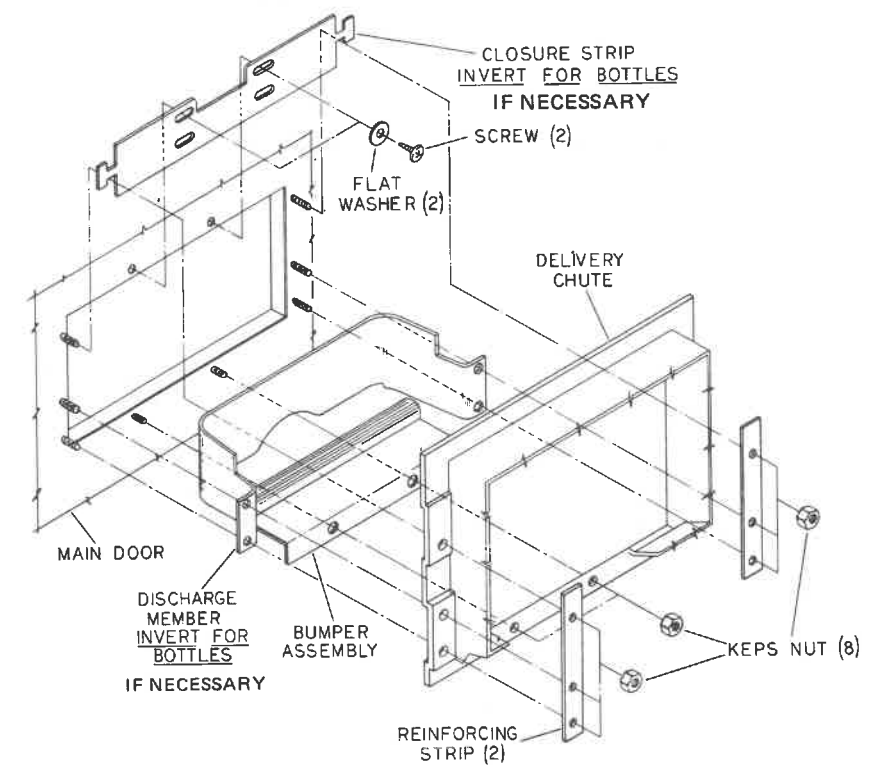

FIG. 1
Any time Narrow Columns sell out, load first 3 bottles Heel down - Crown up - at approximately 45°. See Fig. 1. Then release to horizontal position, See Fig. 2.
7, 5, 3, 1, 2, 4, 6, 8 (Fig. 1)
On the inside of the Control Panel, all select buttons and switches are numbered. If not numbered, then Push Button arrangement is as shown in (1) one of the foregoing diagrams, i.e. Figures 1, 2, 3, or 4.
Refer to Figure 1: